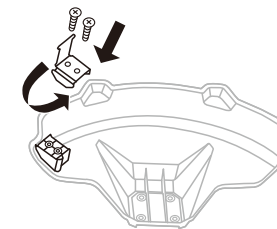

Fig.6B
4. Re-assemble both screws in the blade. (Fig.6B)